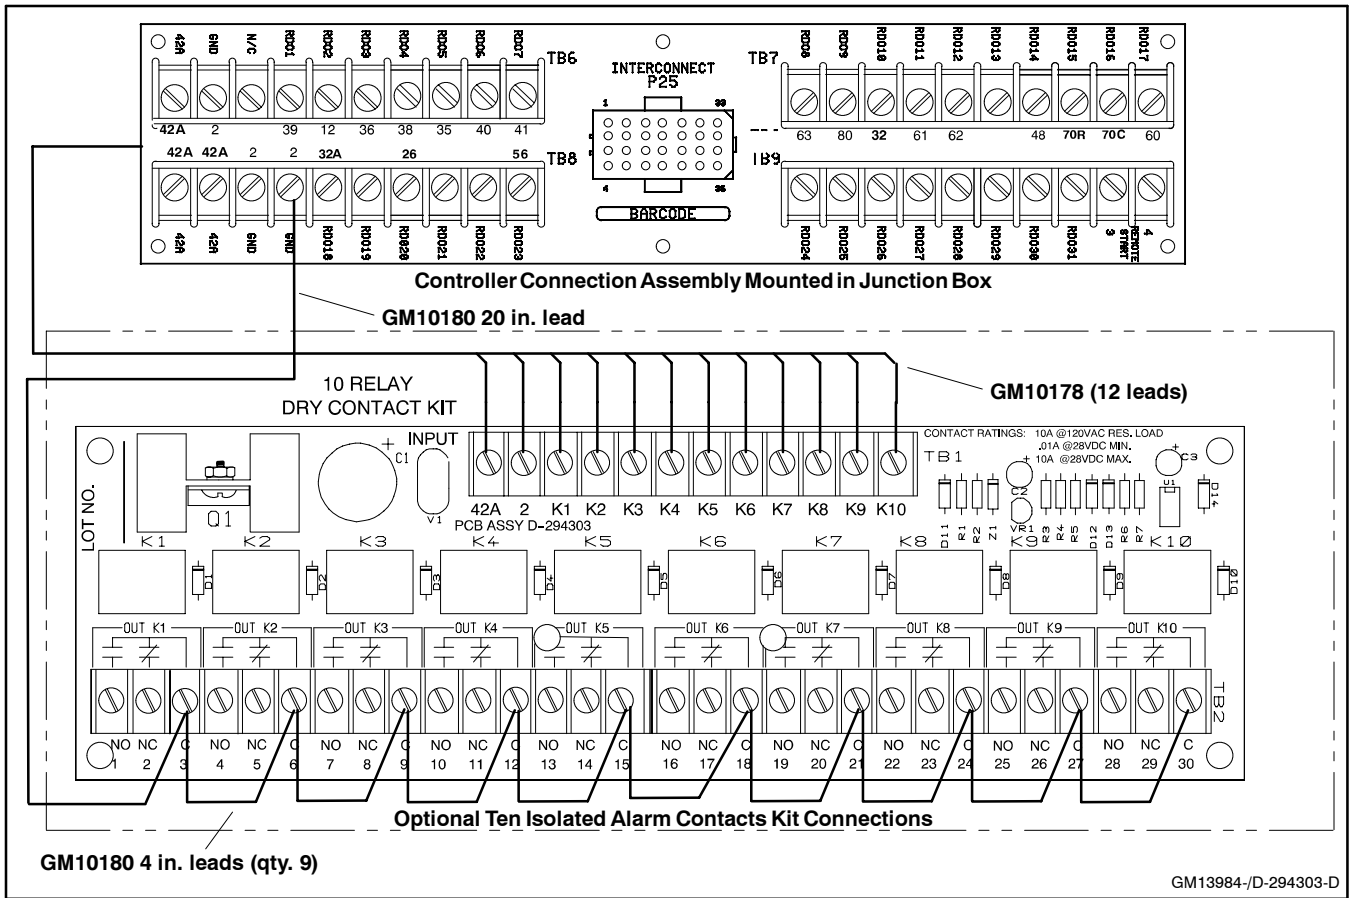

Figure 3 Wiring Harness GM10180 Connections for DC Power Supply
Connect the 12-lead dry contact relay wiring harness (GM10178) from the controller connection assembly to the ten-relay dry contact kit relay input terminals. See Figure 3 for connection information. Terminals 2 (ground) and 42A (battery voltage) provide an electrical source to operate the K1-K10 relays.
Install the 10-lead dry contact wiring harness (GM10180) to electrically connect the relay common (C) terminals together when using a DC power supply. See Figure 3. Remove the 10-lead dry contact wiring harness (GM10180) when applying an AC power supply.